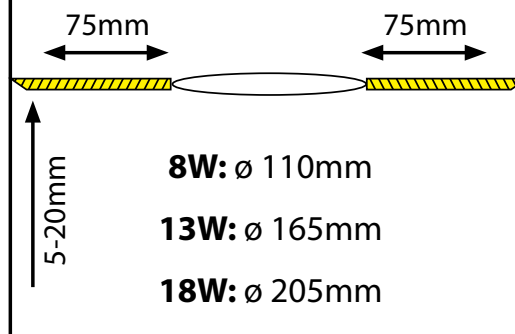

Fig 2
05. Before feeding the luminaire into the hole, ensure the large spring clips point up. (See Fig. 2).